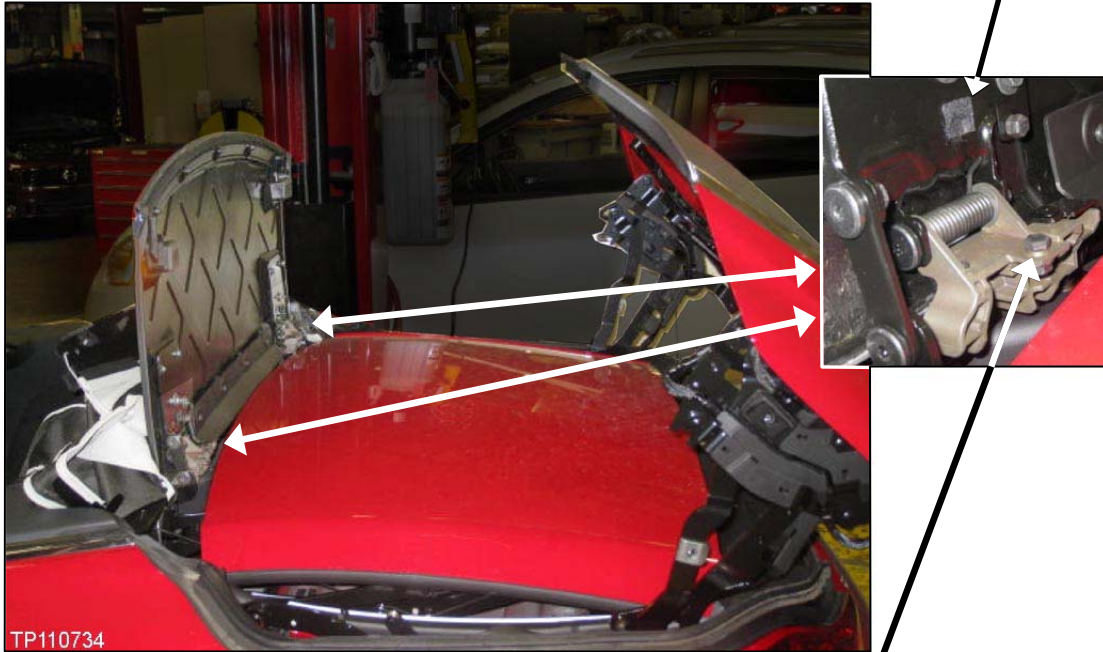

Figure 41f
41. Next, close the trunk lid, open the roof as shown in Figure 41f, and then inspect for felt cloth.
- If felt cloth is not found, cut two 15 mm x 15 mm pieces from the 3 mm sheet, and then apply on the parcel shelf finisher board where the adjusting bolts come in contact (one on each side). See Figure 41f.
42. Locate the two adjusting bolts, and adjust the bolt heads to approximately 5.5 mm (0.20 inches). See Figure 41f and 42f.
- If not, access the adjusting bolts again, and then readjust as needed (see previous page, Figure 41f and 42f).